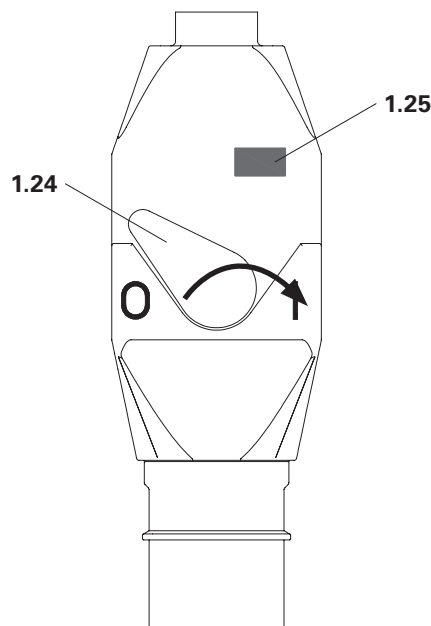

Fig. C1.02
4. Check the direction of rotation of the motor. If the warning light is red, monitor the rotating field (1.25) (Fig. C1.02):